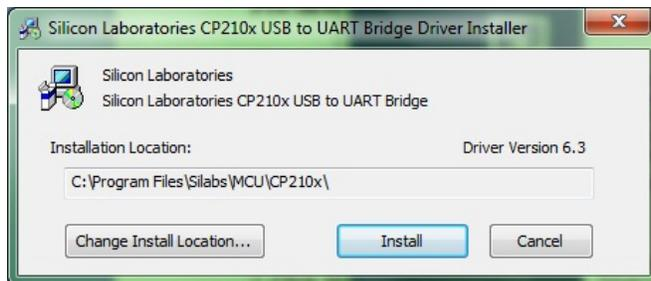

Figure 87 - USB Common Driver Install
7. Click **Install** to continue. Once the installation is complete, the **Installation Successful** message displays (see Figure 87).